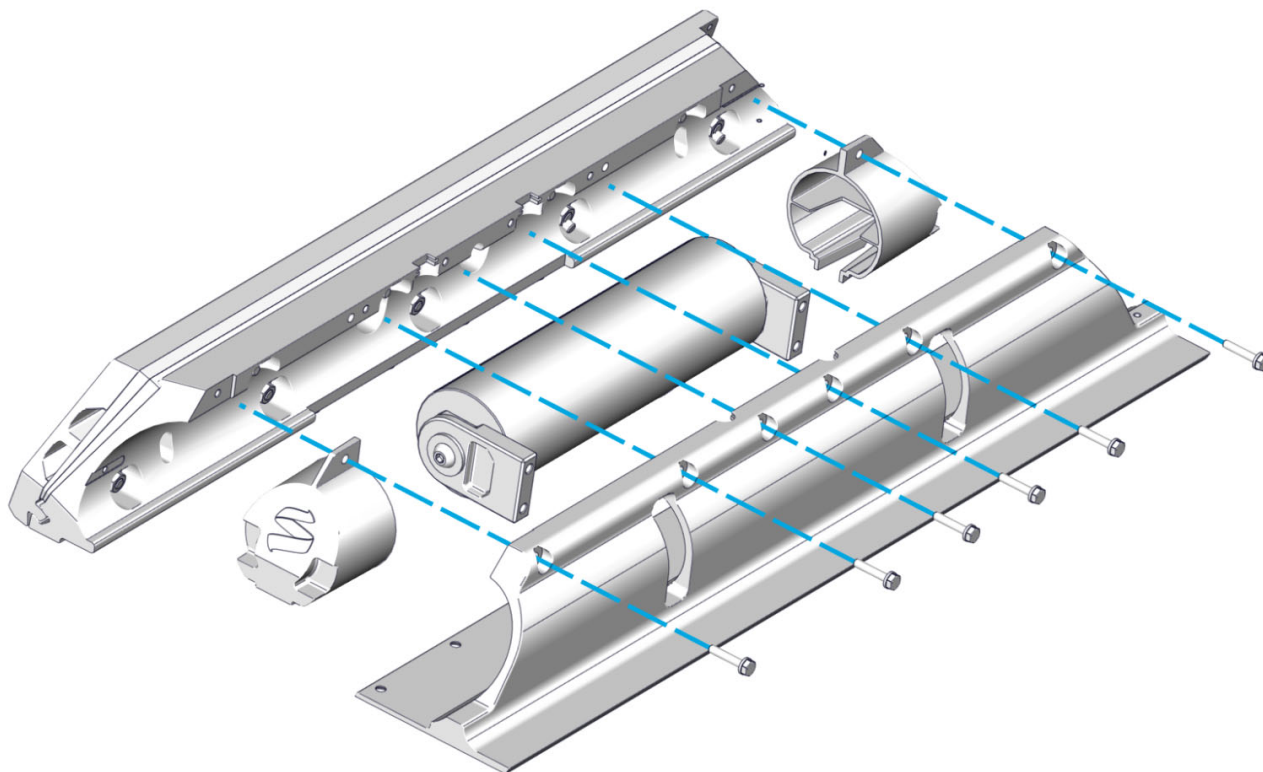

Figure 67 – Dual Actuator Seal Plate Screw Installation
- On Dual Controller systems the two (2) supplied plastic debris caps will need to be inserted between the Seal Plate and Actuator Plate at this stage. See Figure 67 below.
3. Thread in the top four (4) M6-1.0 x 30 mm Hex Head Bolts with M6 Washers to align the Seal Plate with the Wedge Pack Assembly, but **do not tighten**. There should be a small gap (about 2 mm) between the top of the Seal Plate and the Actuator Plate. (Quantity four [4] bolts for 525 Controllers and six [6] for 750 mm Controllers)
- On Dual Controller systems the two (2) supplied plastic debris caps will need to be inserted between the Seal Plate and Actuator Plate at this stage. See Figure 67.